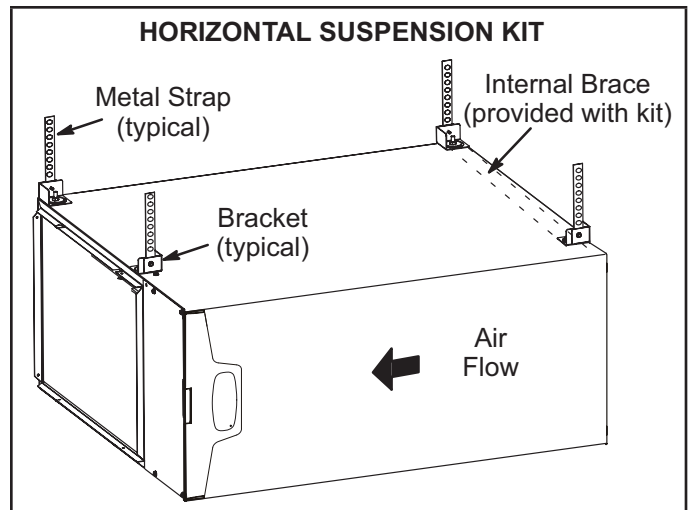
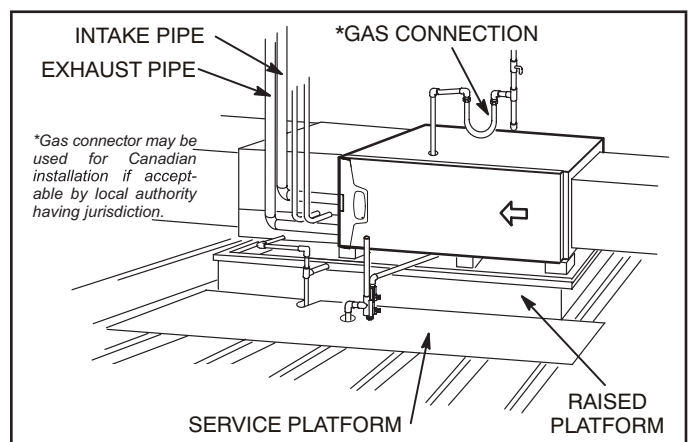

FIGURE 18
FIGURE 19
This furnace may be installed in either an attic or a crawlspace. Either suspend the furnace from roof rafters or floor joists, as shown in "FIGURE 18", or install the furnace on a platform, as shown in "FIGURE 19". A horizontal suspension kit (51W10) may be ordered from Lennox or use equivalent.
- 2 - Construct a raised wooden frame and cover frame with a plywood sheet. If unit is installed above finished space, install an auxiliary drain pan under unit. Set unit in drain pan as shown in "FIGURE 19". Leave 8 inches for service clearance below unit for condensate trap.